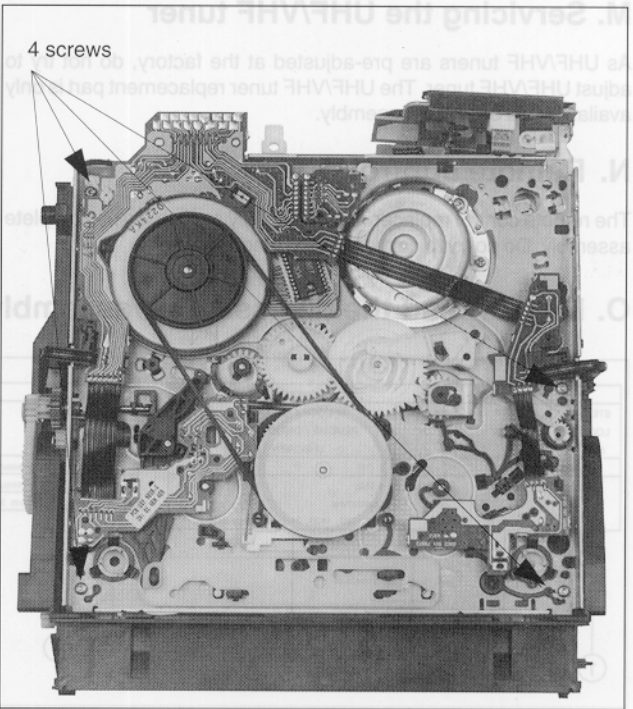

Fig. 1-15
2. Unscrew the 4 screws on the underside of the deck (fig. 1-15)